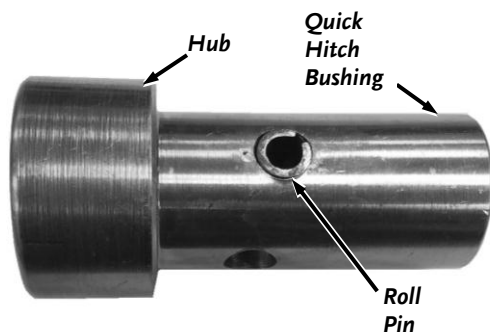

Figure 4
1. Remove the pre installed Roll Pins from the Quick Hitch Bushings using a Hammer and 7/16" Punch (**Figure 4**).